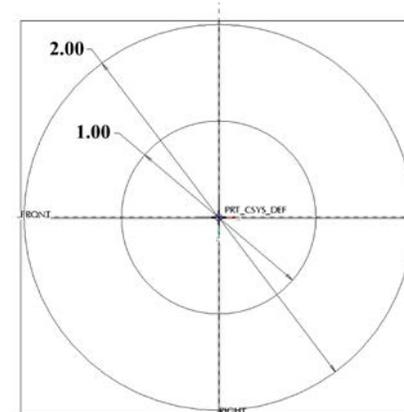

Fig. 2.12.
11. Modify the dimensions.	<p>Creo automatically places dimensions for the circles. A good practice is to modify smaller dimensions first.</p> <p> → Double click the inner diameter dimension → 1 → ENTER → Double click the outer diameter dimension → 2 → ENTER</p> <p>Creo automatically regenerates the section.</p> <p>Refer to Fig. 2.12.</p>